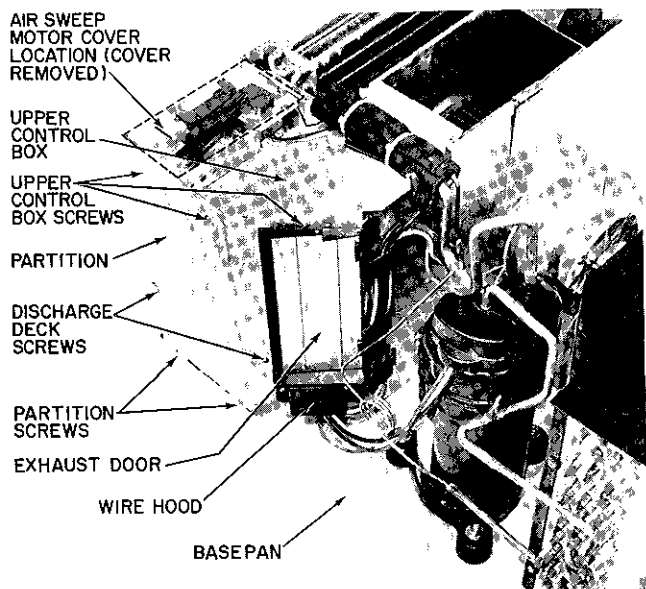

Fig 30 — Exhaust Door
- 34 **Exhaust Door** — See location of Exhaust Door in Fig 30
- e Remove 3 screws (Fig 30) securing upper control box to partition
- f Remove 2 screws (Fig 30) securing discharge deck to partition
- h Remove 3 screws (Fig 30 and 33) securing partition to basepan
c Remove motor cover by removing 2 screws. See Fig. 30.